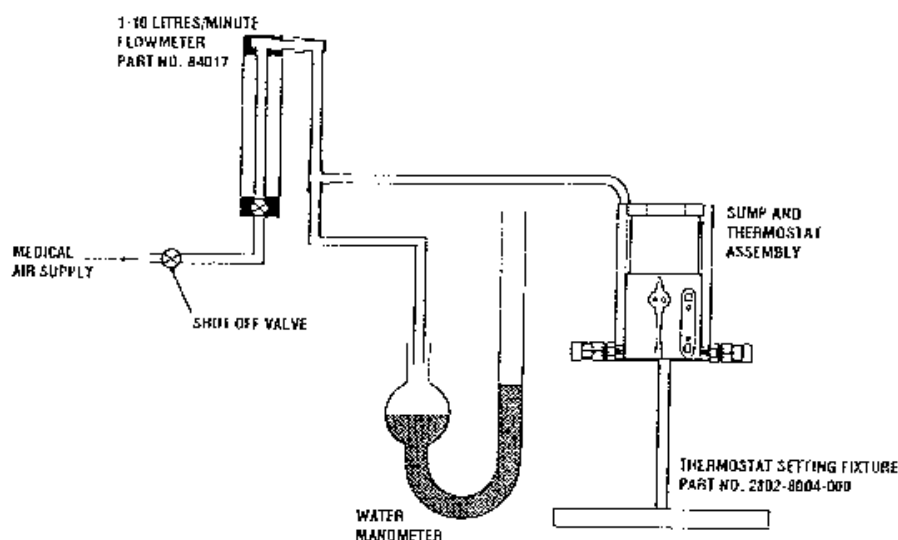

Fig. 3.34 Thermostat Pressure Test Circuit
3.13.4 Thermostat Setting (Fig. 3.34 And 3.35)
Set up the test circuit as illustrated in Fig. 3.34. Ensure that the water manometer is reading zero at 5 litres/minute medical air flow with the thermostat out of circuit